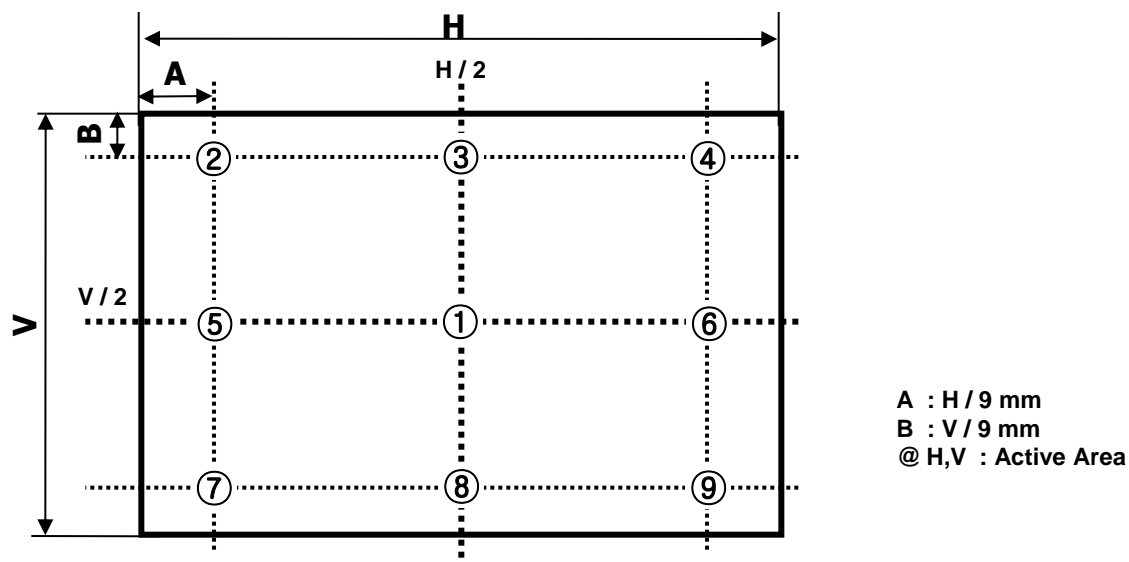

FIG. 2 9 Points for Luminance Measure
2. Surface luminance are determined after the unit has been 'ON' and 1 Hour after lighting the backlight in a dark environment at $25 \pm 2^\circ\text{C}$. Surface luminance is the luminance value at center 1-point across the LCD surface 50cm from the surface with all pixels displaying white. For more information see the FIG. 2.
For more information, see the FIG. 2.